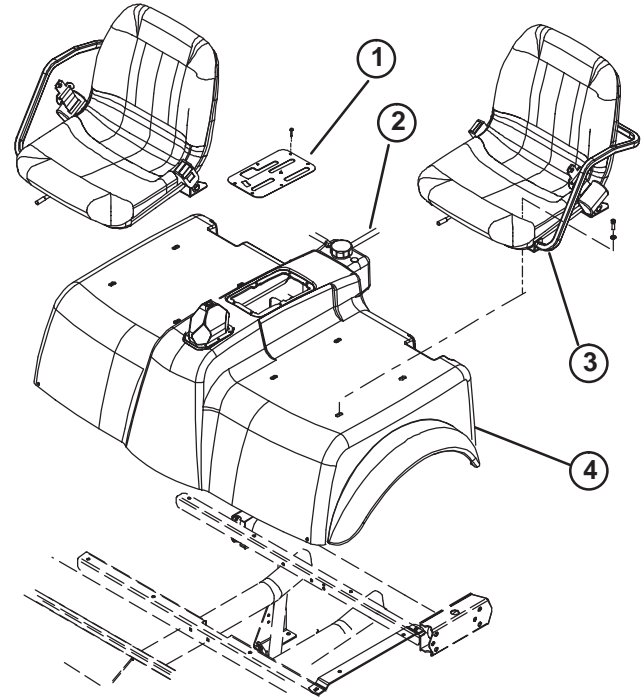

Figure 2
2. Remove (6) screws securing outside edge of center console cover plate to frame and remove cover plate (Fig. 2).
3. Disconnect reservoir hose from radiator and plug or clamp to retain coolant (Fig. 2). Remove operator shield from ROPS.
4. Remove capscrews securing seats and shroud to mounting brackets (Fig. 2). Remove seats and shroud.